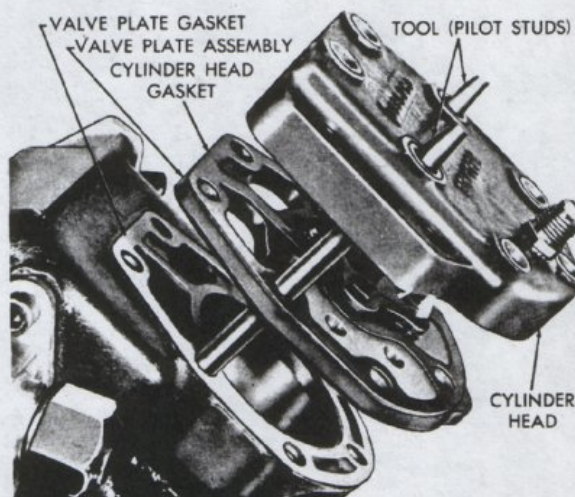

Fig. 46. Installing Valve Plate and Cylinder Head
2. Dip gaskets in clean refrigerant oil. Using pilot studs as a guide, install valve plate gasket, valve plate, cylinder head gasket and cylinder head, as shown in Fig. 46.